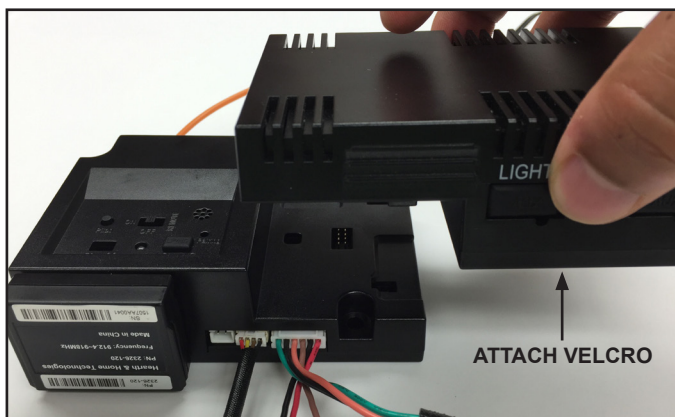

Figure 4.3 Connecting IFT-ACM and IFT-ECM
7. Attach velcro included with the IFT-ACM to the bottom of the ACM. See Figure 4.3.
8. Connect the IFT-ACM to the IFT-ECM by aligning the pins and tabs and pushing the IFT-ACM into the IFT-ECM until both tabs latch in place. Ensure the IFT-ECM and IFT-ACM are aligned with each other and fastened securely. See Figure 4.3.